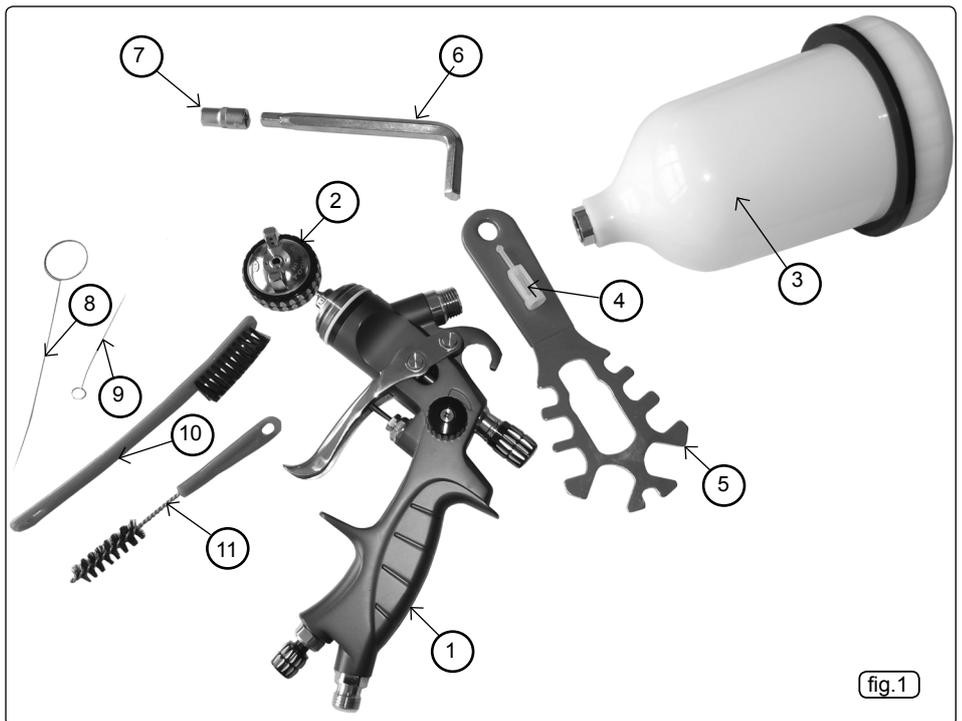

fig.1
- 5.1.1. Ensure the strainer, item 4 fig.1, is inserted into the gun port with the stem outermost for easy removal.
Vibration may cause failure if a quick change coupling is connected directly to the spray gun. To overcome this, connect a leader hose to the spray gun. A quick change coupling may then be used to connect the leader hose to the air line recoil hose (Fig.1 and Fig.2).